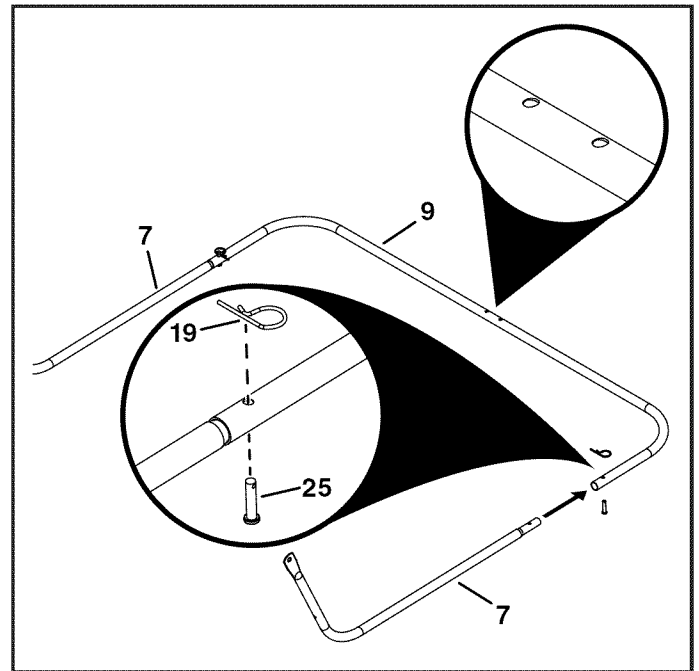

FIGURE 7
STEP 7: (SEE FIGURE 7)
- Install a rear hopper tube (9) onto the ends of the two lower hopper tubes (7). Secure them with two 1/4 x 1.11" clevis pins (25) and small hairpin cotters (19).